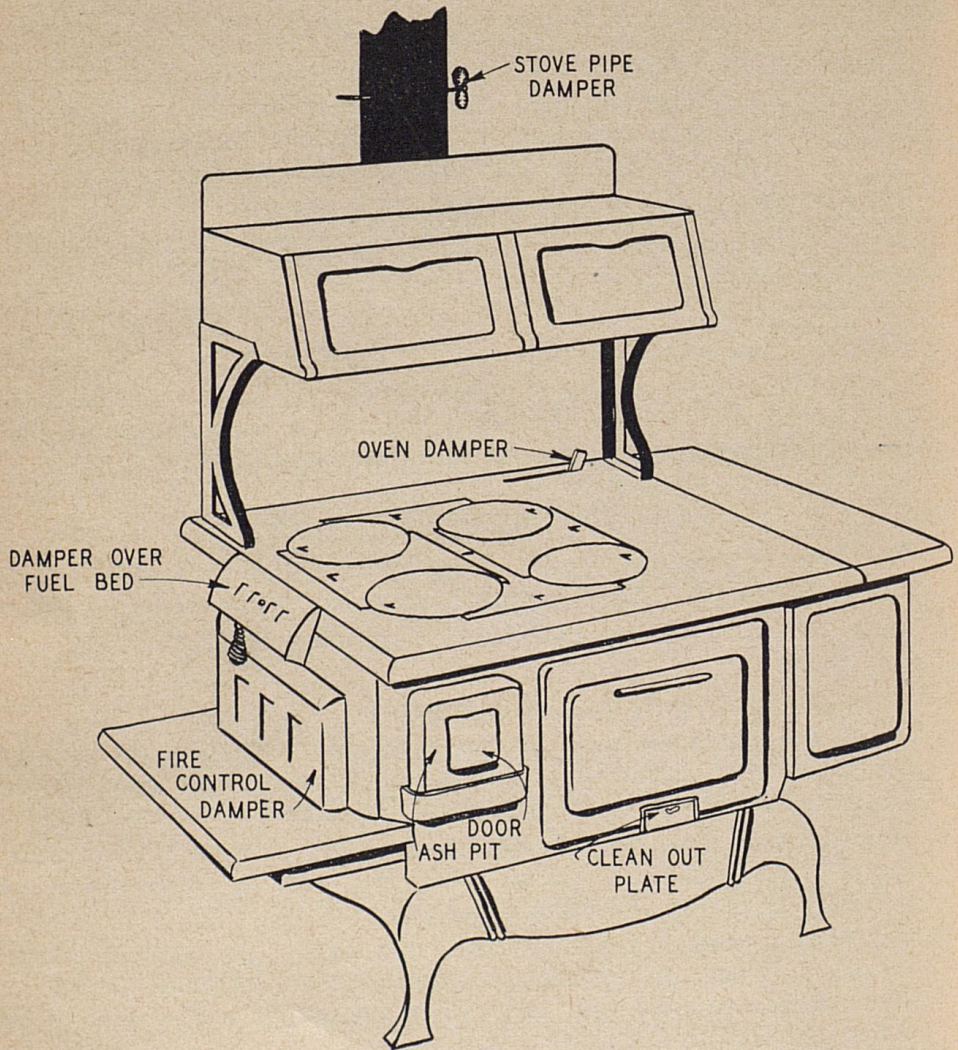

Fig. 52
- Close the stove pipe damper and open the fire control damper for quick heating, Fig. 52.
- Clean out all soot from under lids, range top, and around oven, and at clean out plate, Fig. 52.
- c. Use correctly dampers and draft-checking devices, Fig. 52. Do not allow the range to become red hot as this warps the stove.
The fire control damper below the firebox, Fig. 52, admits the necessary air for combustion. Keep the ash pit door, Fig. 52, closed.
The damper over the fuel bed, Fig. 52, admits cold air on top of the fire. Open it slightly when adding fresh fuel to aid in combustion of gases.
The oven damper, Fig. 52, reduces the draft from the chimney and draws the heat around the oven.
The stove pipe damper, Fig. 52, is used to regulate the chimney draft. When a strong wind is blowing, keep this damper partly closed, except when starting a fire. On wet days, leave this damper entirely open.
1. Remove all ashes regularly from the firebox and ash pan, Fig. 52. Never allow ashes in the ash pit to remain in contact with the grates.